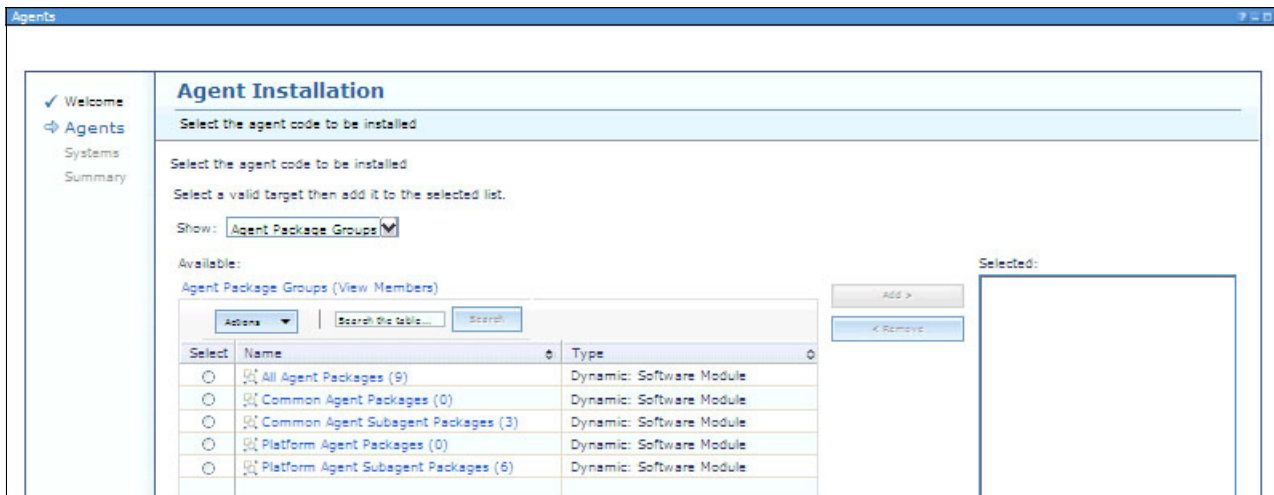

Figure 9-34 Selecting the Common Agent Subagent Packages group
4. Click **Common Agent Subagent Packages** as shown in Figure 9-34.